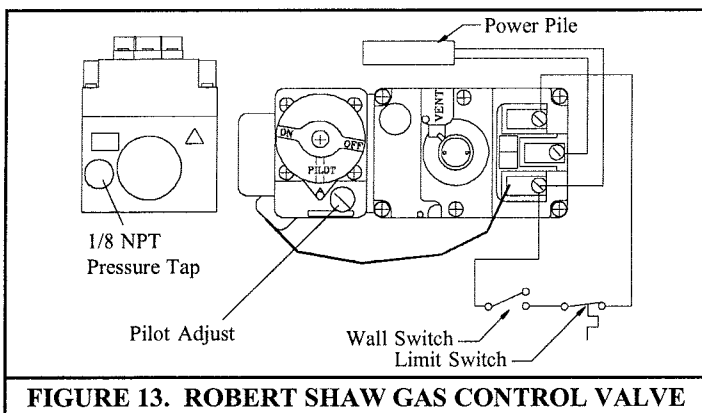

FIGURE 13. ROBERT SHAW GAS CONTROL VALVE
The *EC-Plus 26 Series* comes with 10 feet of low voltage wire, and is connected to the control valve, located behind the removable grille, at the bottom of the appliance. Refer to Figure 13 on page 7.) The valve is pre-wired and completely self-contained to generate its own power: **DO NOT** connect any external power to it.
A high limit control is supplied with each unit. This must be wired in the Wall Switch, Gas Valve circuit. (See Figure 13 for Schematic Diagram.)
The gas control valve is located behind the grille in the centre of the fireplace (see Figure 13 below). Before lighting the pilot, make sure that the gas line is connected and the gas shut-off valve is turned to the ON position.
- Remove Pilot Adjustment Cap. (see figure 13)